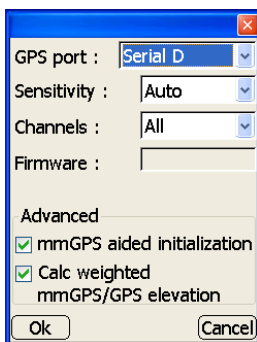

Figure 4-15. Select mmGPS Information
6. Select the following mmGPS parameters (Figure 4-15):